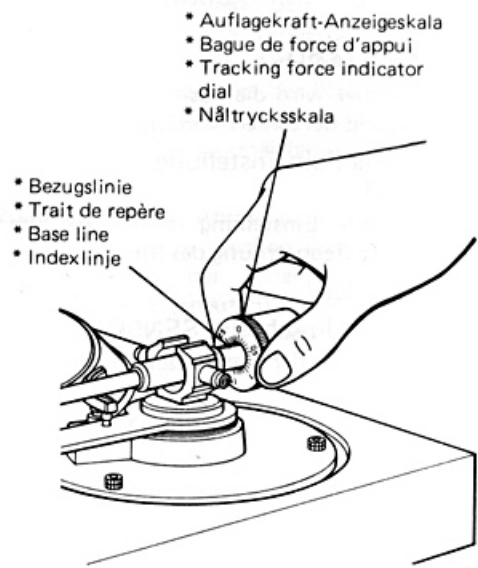

Abb. 4 / Fig. 4
2. Grasp the counterweight and set the tracking force indicator dial to the zero position relative to the base line (Fig. 4). The tonearm and cartridge assembly are now correctly balanced.